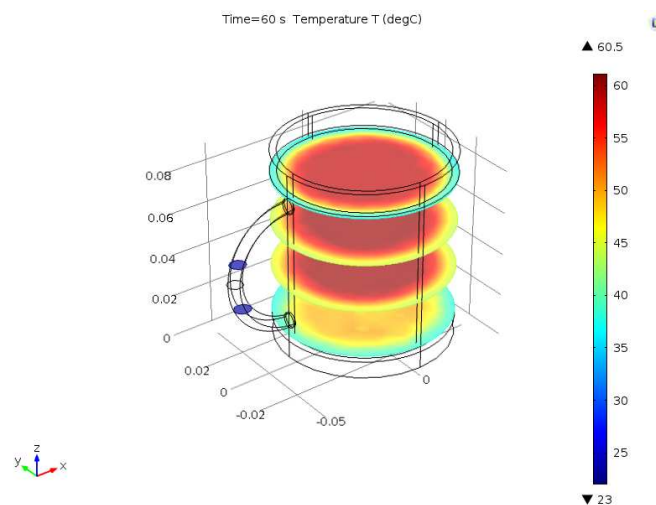

ABBILDUNG 7.2. Slices of the heat distribution (temperature) T (in $^{\circ}\text{C}$) of the coffee cup at time $t = 60$ (in s)
- The result is shown in Figure 7.2.